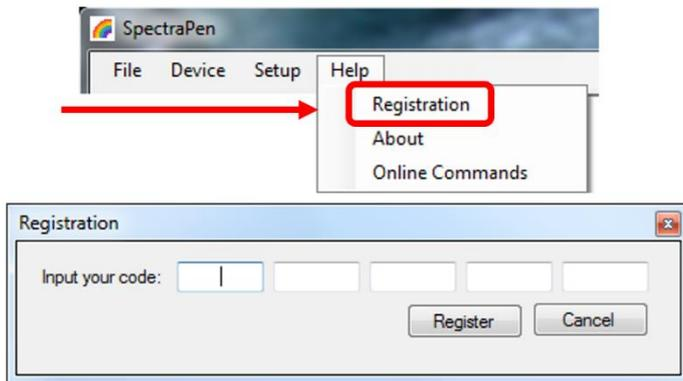

Fig. 19 SW registration.
2. To connect and recognize the PolyPen device in the SpectraPen software, proceeds first with the registration of the SpectraPen software (Fig. 19).